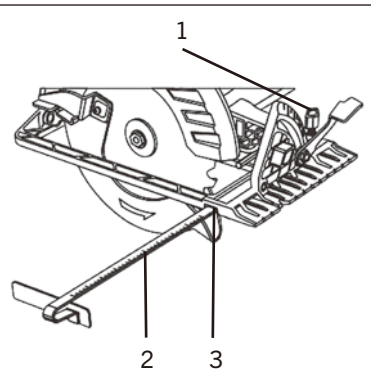

FIG. 7
1. Loosen the rip guide adjusting knob (1) (Fig. 7).
2. Slide the rip guide rod (2) into the rip guide slot (3). Continue to slide the rip guide rod across the sole plate and into the rip guide slot under the rip guide adjusting knob.
1. Set the rip guide foot at the required width (Fig. 7).